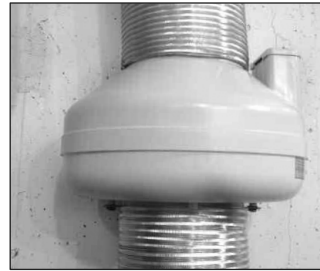

Fig. 6
Step 3: Connect ductwork between fan inlet and area to be vented through inlet grille (Fig. 6). Flexible, nonmetallic ducting is recommended for quietest operation and easiest installation. Insulated flexible ducting is highly recommended for bathroom ventilation in all cold climate installations. Metal worm drive clamps, spring clamps, adjustable plastic ratchets are recommended for connection of ducting. Silicon Caulk or Duct Tape may be used for additional sealing. Duct Tape should be used to retain insulation.